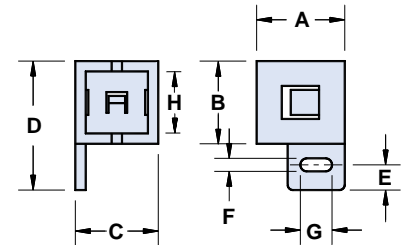

Figure 4
- Figure 4 clips are polypropylene with a flammability rating of UL94-V0.